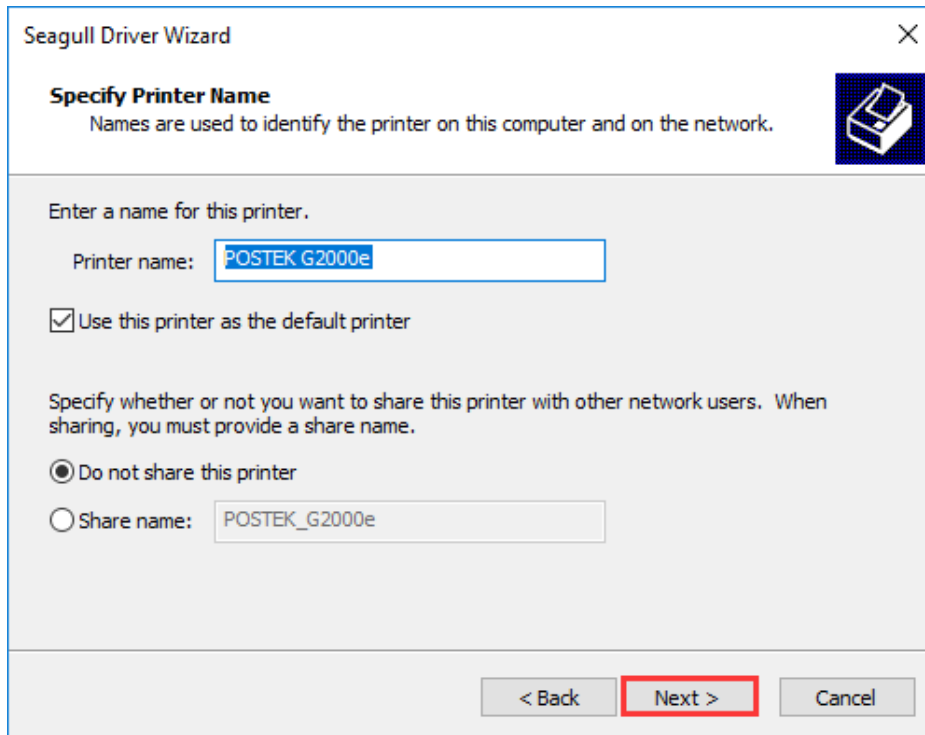

Figure 2-20 Specify Printer Name
- On the “Specify Printer Name” screen, enter a name for the printer, as shown in Figure 2-20, then click “Next” to complete the driver installation.